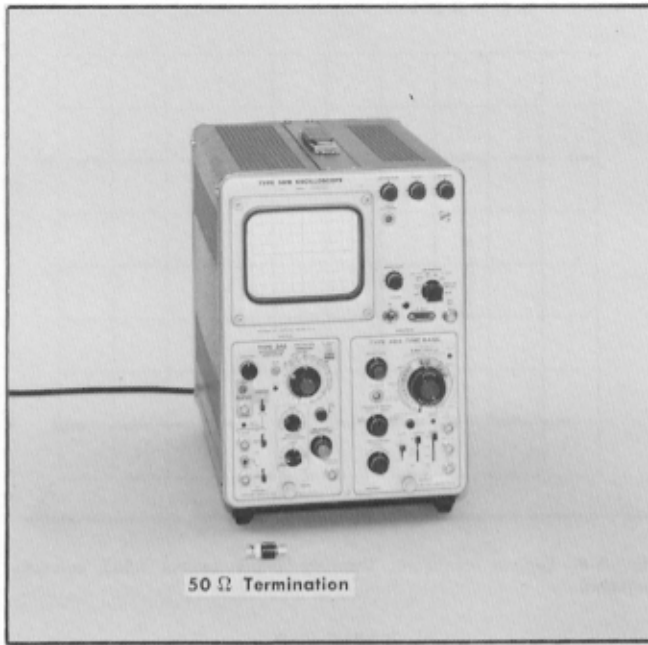

Fig. 5-5. Equipment required for steps 7 and 8.
- a. Test equipment is shown in Fig. 5-5.